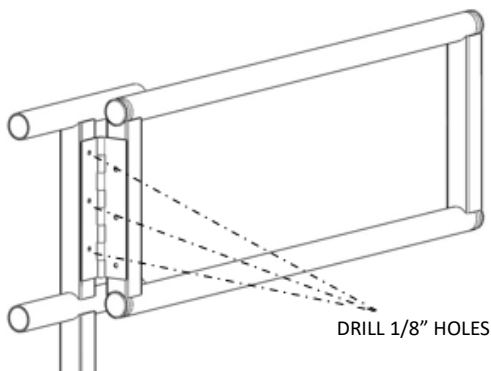

FIG. 7.15
- 7.8.4. Using the holes in the hinge as a template, mark locations with a pencil, then drill three 1/8" holes through both sides of the vertical handrail tube (FIG. 7.15). Install fasteners through hinge and vertical handrail post and secure as shown (FIG. 7.16).